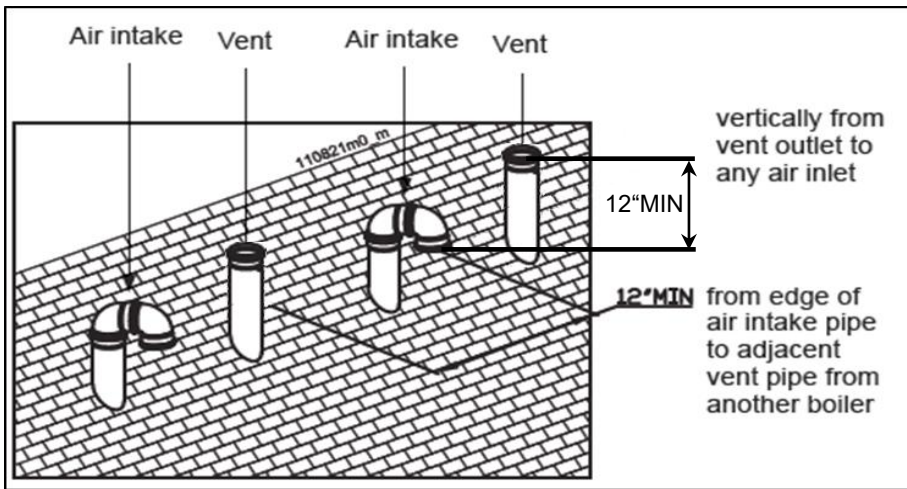

Figure 10.24
2. Place roof penetrations to obtain minimum clearance of 12 inches (305 mm) between outside edge of air intake and exhaust vent of another boiler for U.S. installations (see Figure 10.24). For Canadian installations, provide clearances required by the latest edition of the CAN/CSA B149.1 Natural Gas and Propane Installation Code.
| NOTICE | <p>Do not allow insulation or other materials to accumulate inside the pipe assembly when installing through the hole.</p> <p>Ensure termination height is above the roof surface or anticipated snow level (a minimum of 12 inches (305 mm) in U.S.A. or 18 inches (457 mm) in Canada) as shown in Figure 10.24.</p> |